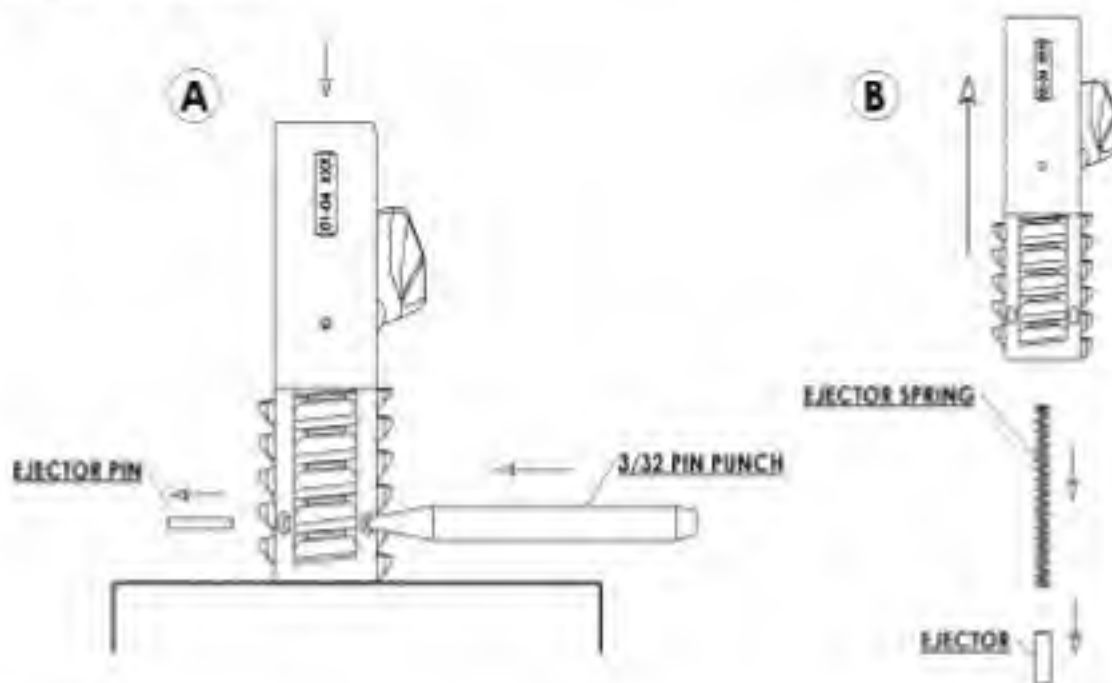

Figure 12.
1. Hold the bolt face firmly against a flat work surface. Drive the ejector pin out of the bolt with a 3/32 punch. (Figure 12, step A.) The ejector and ejector spring will escape from the bolt after the punch is retracted from the ejector pin hole.
2. Lift the bolt from the work surface and remove the ejector and ejector spring. (Figure 12, step B.)